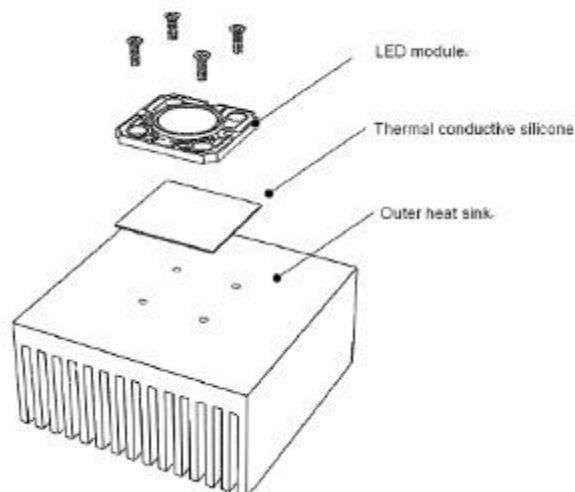

Figure 1
4. Recommended Assembly Method is shown in Figure 1, COB 30W series products must be used in conjunction with heat-sinking devices and a thin layer of thermal grease should be applied to the bottom surface of the LED source